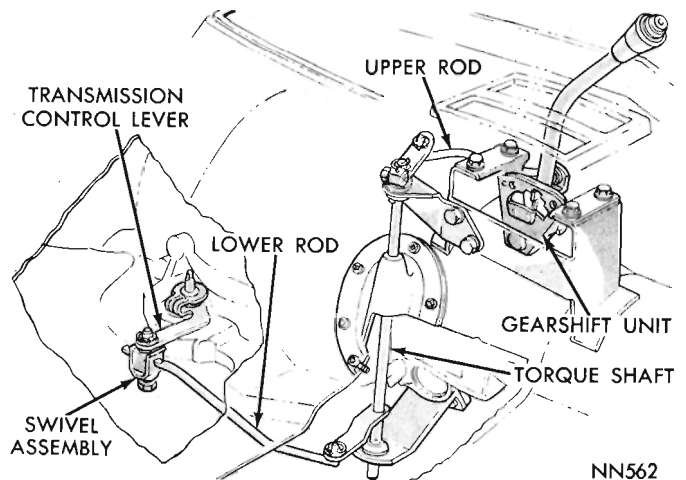

Fig. 11—Console Gearshift Linkage
(1) Install gearshift unit in its bracket, install and tighten retaining bolts securely (Fig. 11). Attach upper rod to the unit.
(1) Place gearshift selector lever in **PARK** position and loosen lower rod swivel clamp screw a few turns (Fig. 11).